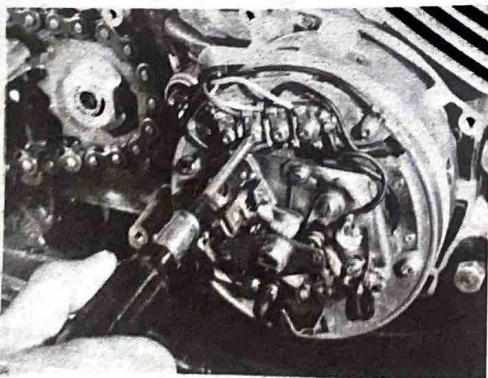

Fig. 4-1-7
6. Remove the dynamo wiring and the neutral switch wire. (Figs. 4-1-7 and 8)